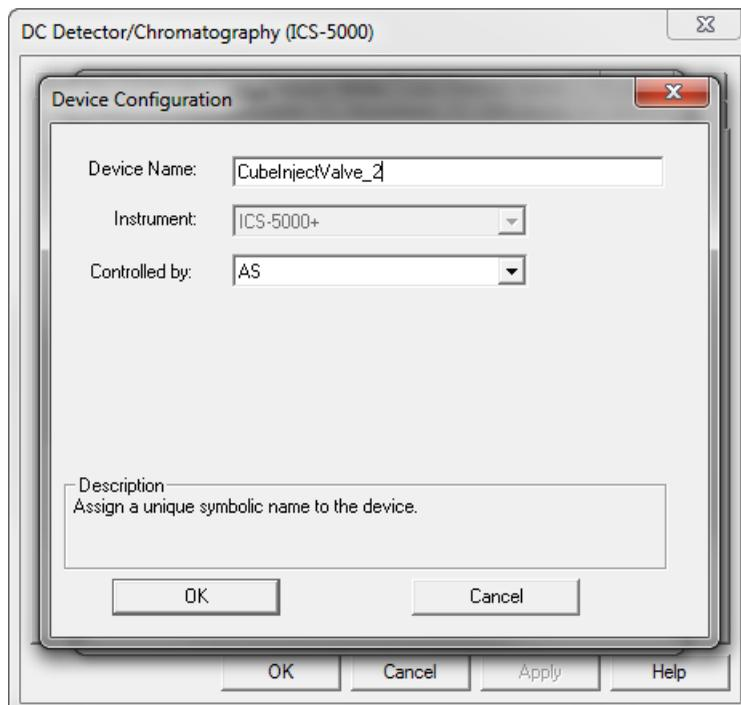

Figure 3-24. IC Cube Valve Configuration Example
- Click **Configure** next to **Valve** and verify that the IC Cube injection valve is assigned to the correct instrument (or timebase) (see Figure 3-24).